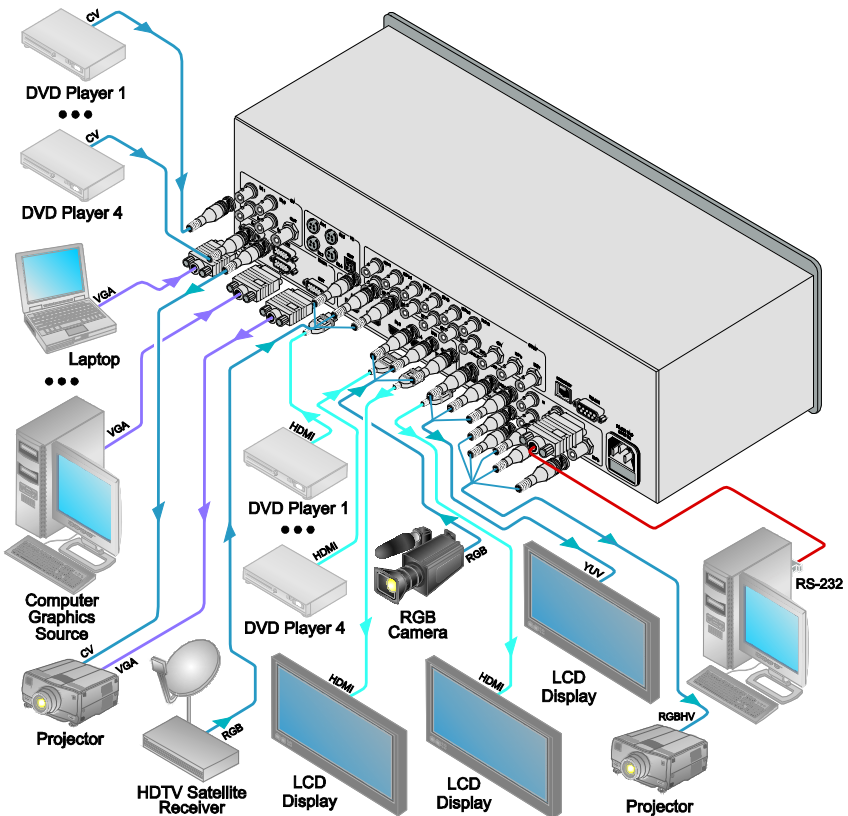

Figure 3: Connecting the VP-725xl Presentation Switcher / Scaler
To connect the **VP-725xl**, connect the following1 to the rear panel, as the example in Figure 3 illustrates:
- Up to four s-Video sources to the 4-pin input connectors (not illustrated in Figure 3)
- Connect the UXGA connector to the UXGA acceptor, for example, a monitor (not illustrated in Figure 3)
6. Connect the power cord1 (not illustrated in Figure 3).